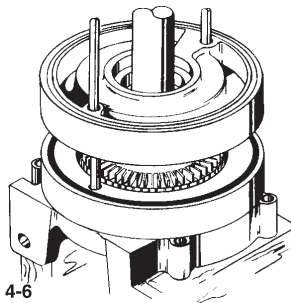

Figure 4-6
7. Slide a right hand channel ring (#9) onto the guide rods with the water channel facing downward, toward the impeller.(refer to figure 4-6) The small outlet opening should be in the “one o'clock” position. This completes one stage; a stage consisting of one left hand channel ring (#10), a right hand channel